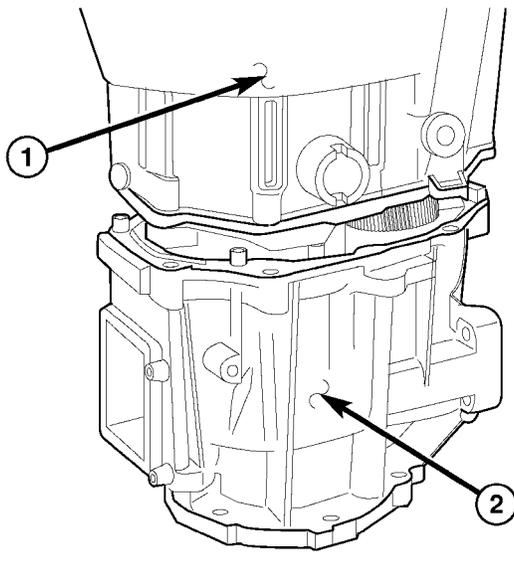

Fig. 14 SPLIT HOUSING
(7) Stand transmission on the rear housing and remove the housing bolts.
(8) Remove front housing (1) (Fig. 14) from the rear housing (2).